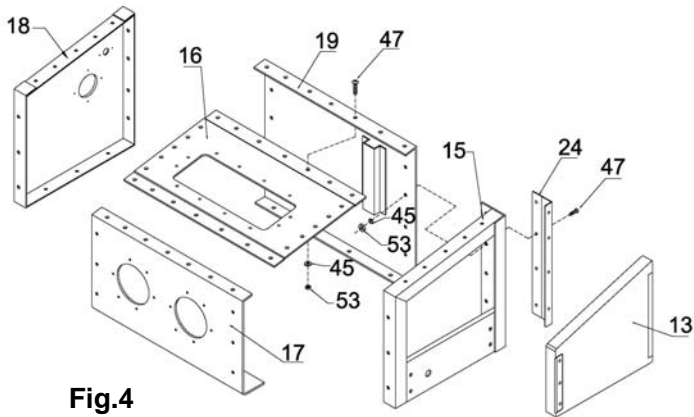

Fig.4
Step 4 -- Cabinet Assembly see Figure 4